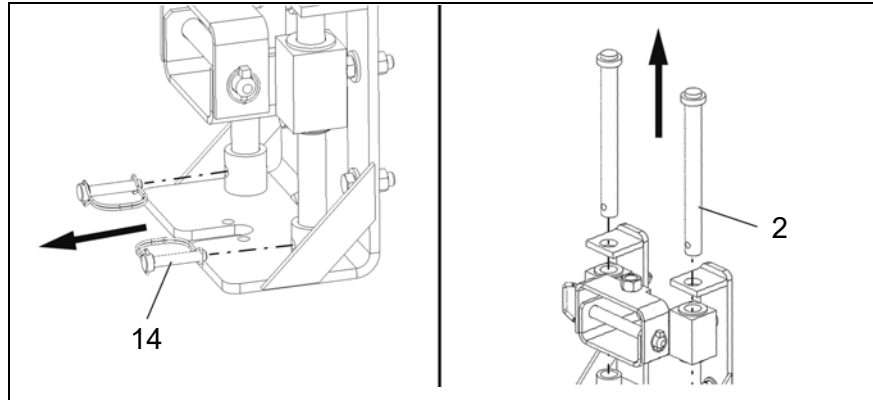

Fig. 7
12. Remove locking bolts (14, Fig. 7). (omitted for the far side)
13. Remove the guide rods (2, Fig. 7). (omitted for the far side)